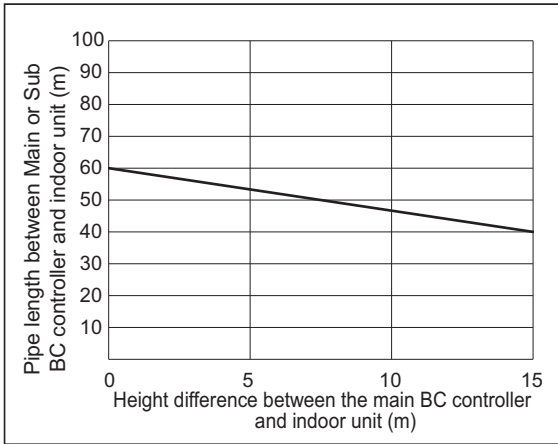

Fig. 2
*1. Refer to the graphs (Restrictions on Refrigerant Pipe Length) in Section [2-10-1 (5)].
*2. Details refer to Fig. 2.
*9. When the piping length or the vertical separation exceeds the limit specified in Fig. 2, connect a sub BC to the system.
When using indoor models P140 or larger, the restrictions shown in Fig. 2 cannot be exceeded.